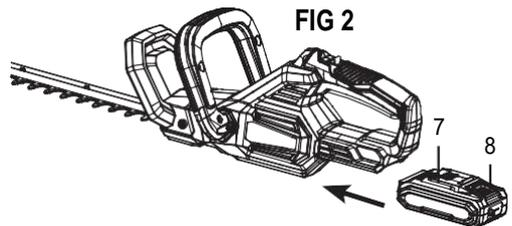

FIG 2
INSTALLING OR REMOVING THE BATTERY PACK (FIG 2)
- To install the battery pack, slide the battery pack (7) into the end of the tool housing all the way until it locks in place with a click, as shown in FIG 2. Lightly pull on the battery to ensure it is locked into place and will not accidentally fall out of the tool.
- To remove the battery pack, pull the battery pack away from the tool while depressing the battery locking tab (8).